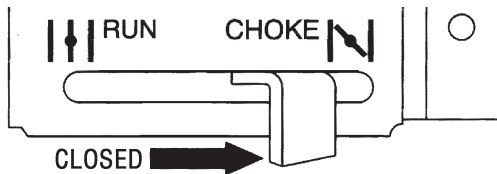

Figure 20. Engine Choke Lever (Closed)
2. Place the **choke lever** (Figure 20) in the **RUN (OPEN)** position if starting a **warm engine** engine or if the **temperature is warm**.